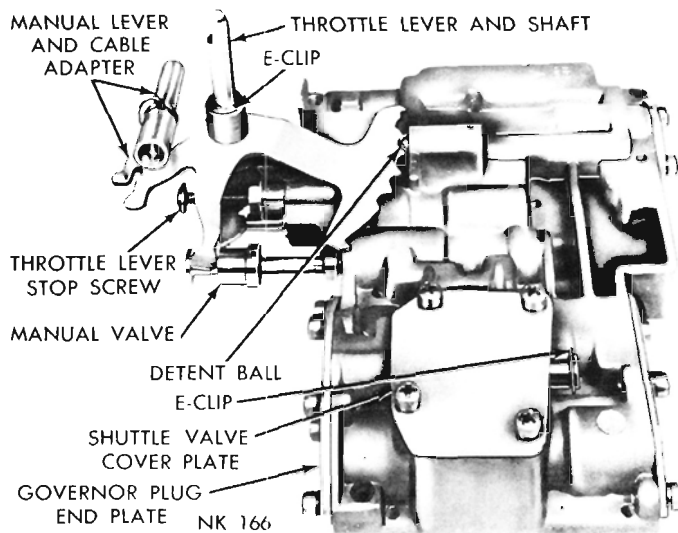

Fig. 74—Valve Body Controls (Assembled View)
(9) Invert the valve body and lay it on a clean cloth or paper. Remove E-clip from the throttle lever shaft (Fig. 74). Remove any burrs from the shaft, then while holding the manual lever detent ball and spring in their bore with Tool C-3765 or similar tool, slide the manual lever off the throttle shaft. Remove the detent ball and spring.
(10) Remove the manual valve, carefully slide it out of valve body with a rotating motion.
(11) Remove the throttle lever and shaft from the valve body.
(12) Remove the shuttle valve cover plate (Fig. 74). Remove the E-clip from the exposed end of the shuttle valve.